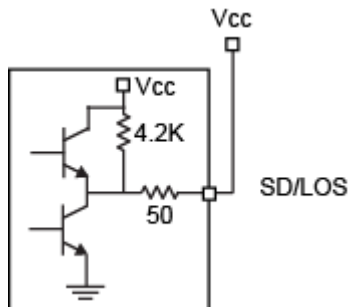

Figure 4. SD Output Structure
The SY88149HAL generates a chatter-free Signal-Detect (SD) or LOS LVTTTL output, as shown in Figure 4. A highly-sensitive signal detect circuit is used to determine that the input amplitude is too small to be considered a valid input. LOS asserts high if the input amplitude falls below the threshold sets by LOS/SDLVL and deasserts low otherwise. SD asserts high if the input amplitude rises above threshold set by LOS/SDLVL and deasserts low otherwise. LOS/SD can be fed back to the JAM input to maintain output stability under the absence of an invalid signal condition. Typically, a 3dB hysteresis is provided to prevent chattering.